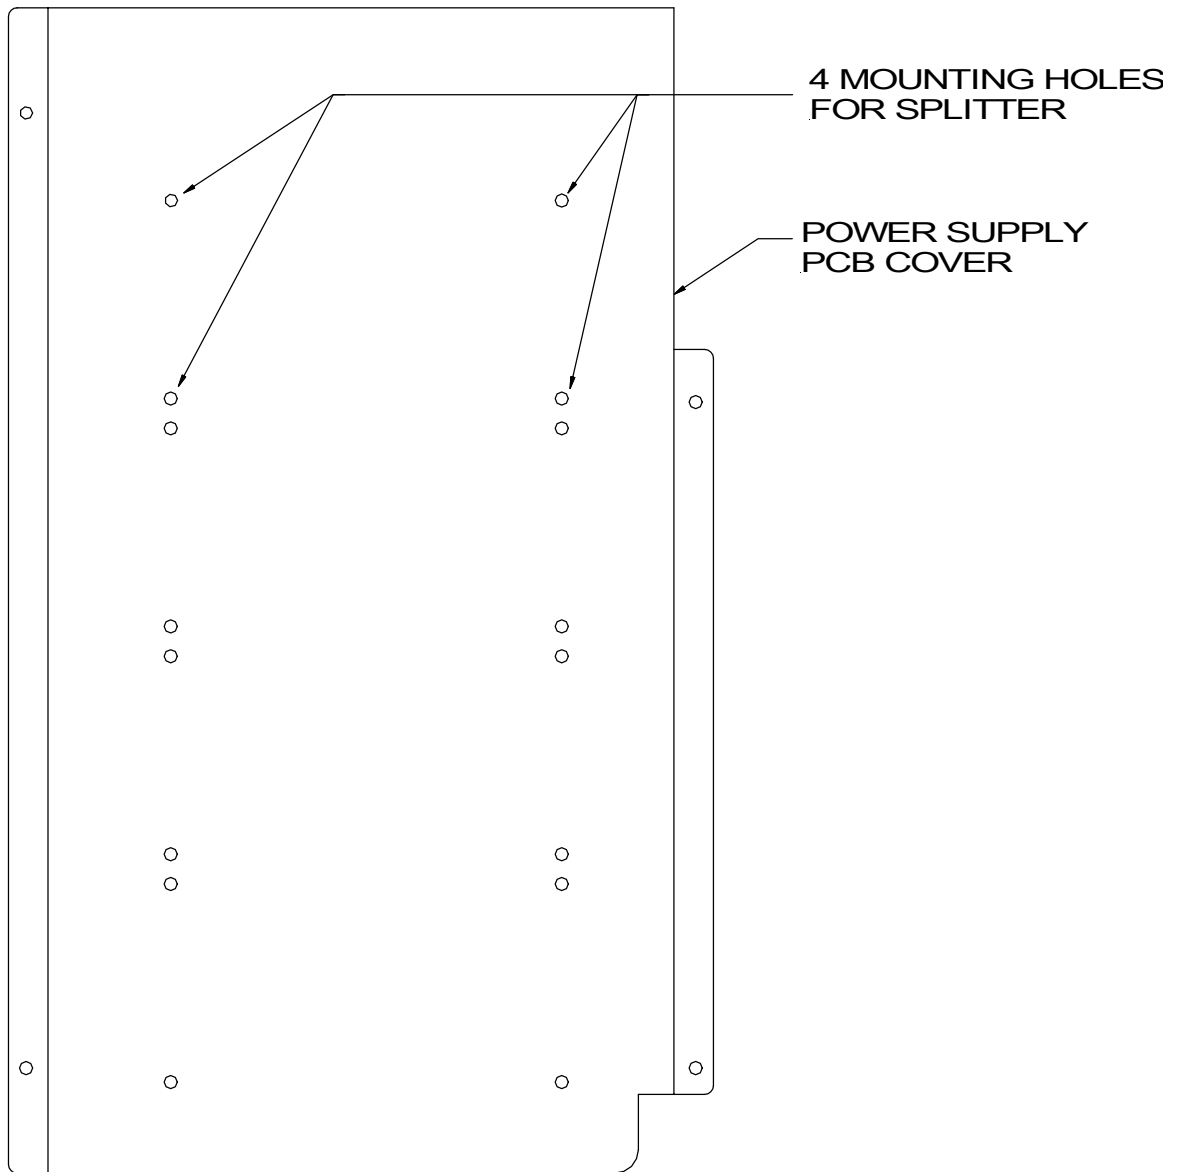
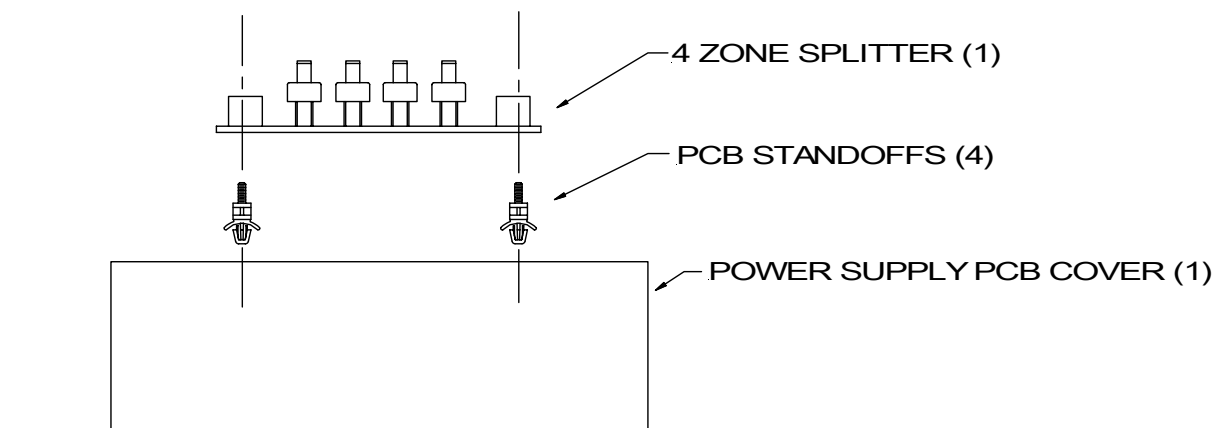

Figure 1:
Figure 2:
1. Attach the 4 PCB standoffs to the 4 mounting holes in the SAFEPATH Power Supply PCB cover (see Figure 1) by pushing standoff into the hole until it locks into place as shown in Figure 2.
2. Attach the Four Zone Splitter PCB on to the PCB standoffs so that the standoffs mate with the mounting holes on the PCB as shown in Figure 2. Push the PCB until the board locks into the 4 standoffs